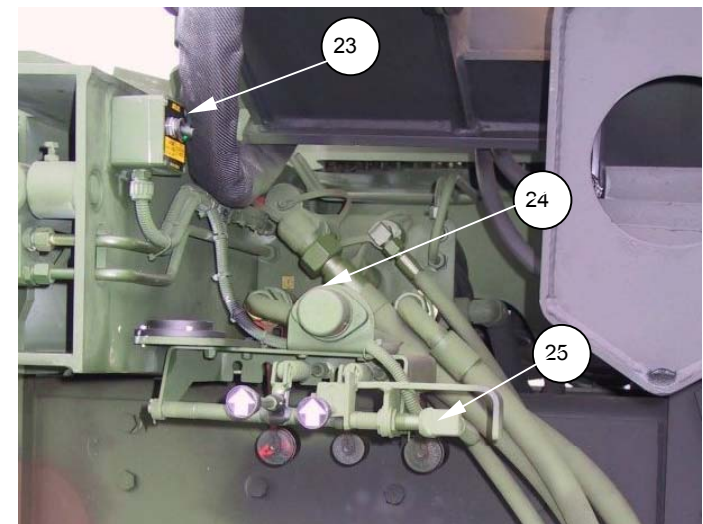

Figure 4 CRANE ELECTRICAL COMPONENT LOCATIONS VIEW C
**Table 4 for Figure 4 View C**